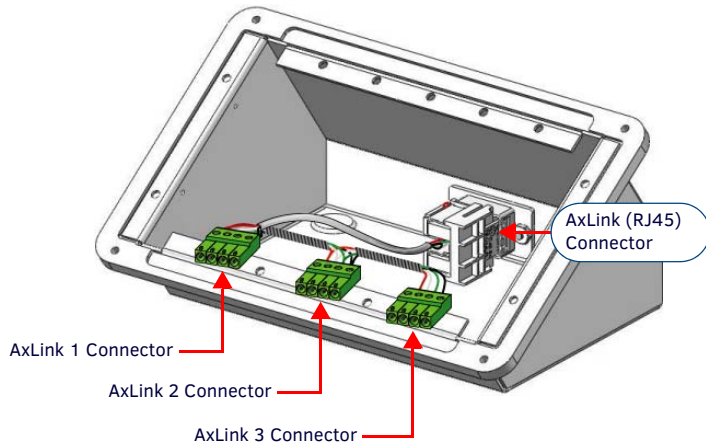

FIG. 4 INTERNAL AXLINK CONNECTORS (MET-TTS1-BL SHOWN)
1. Connect the AxLink connectors from inside the Table-Top Stand to the AxLink connector on the rear panel of each of the Keypads (FIG. 4).